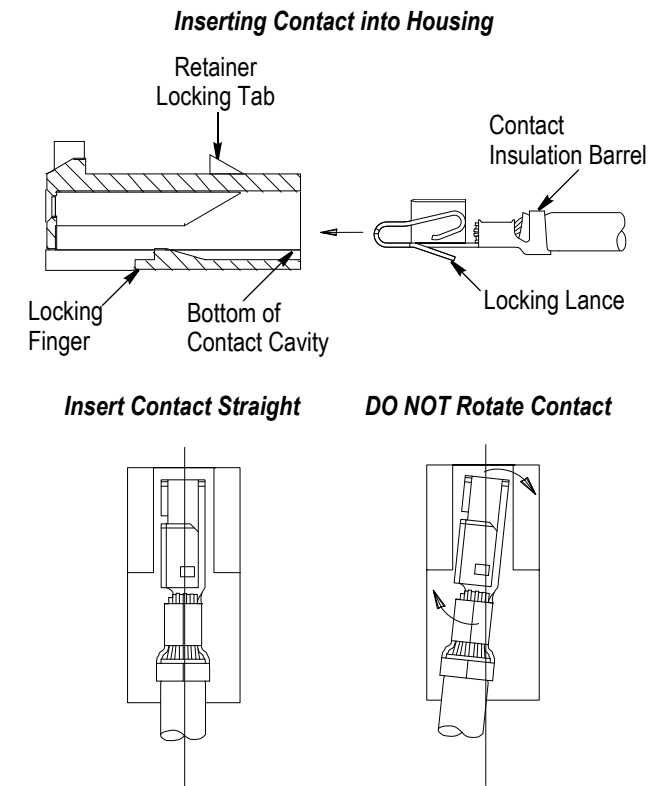

Figure 2
- b. Grasp the contact directly behind the insulation barrel (not the wire), and align the locking lance with the bottom (side opposite the locking tab) of the contact cavity. Make sure that the contact is perpendicular (not at an angle) to the contact cavity. See Figure 2.
- c. Insert the contact straight and not rotated into the contact cavity. If it is not, damage to the contact will occur or the contact will not latch properly onto the locking finger inside of the housing. See Figure 2. Do not force the contact into the housing.